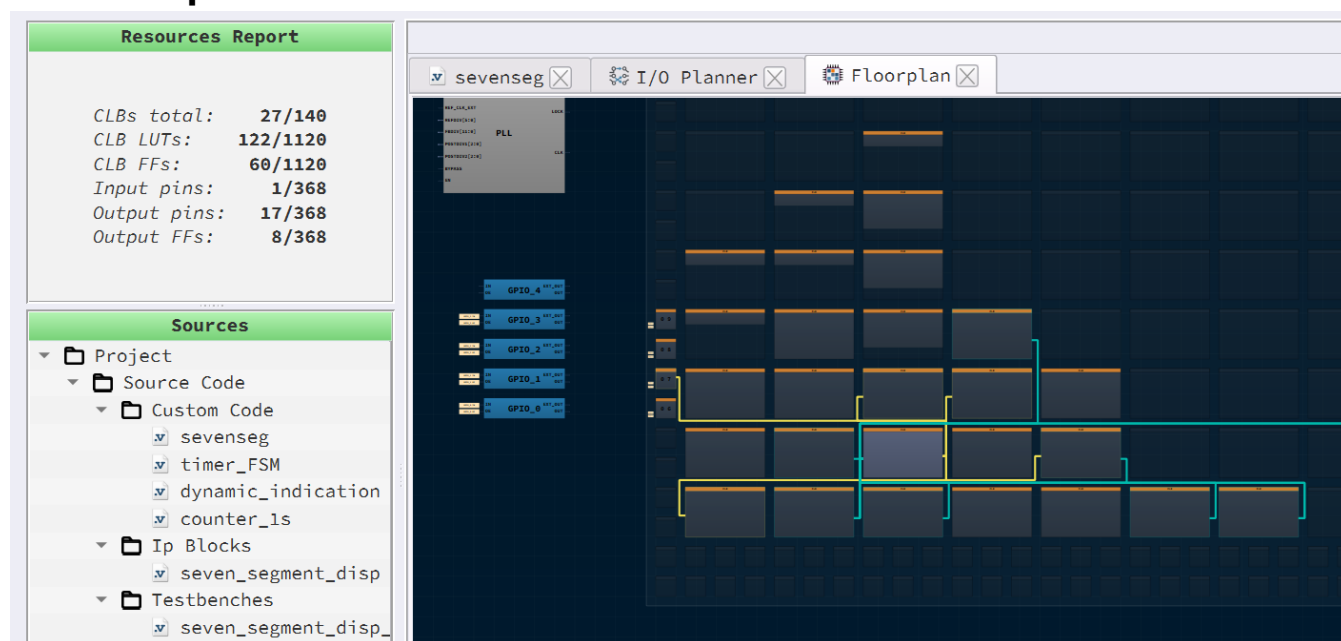

Figure 3: Floorplan & CLB Utilization
- Now click on the Floorplan tab and see the CLB utilization (Figure 3). Press the Ctrl and the mouse wheel to zoom-in. Confirm that the IOs selected in the IO Planner are shown in the floorplan.